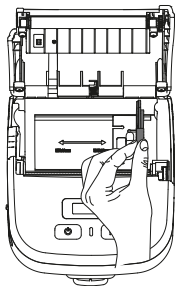

Figure 1
- (1) Adjust the paper width according to the paper width, hold the top of the paper width baffle and move it to the left (as shown in Figure 1).